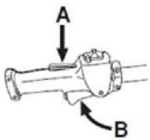

Fig. 4
6.2 THROTTLE LOCK (Fig. 4)
The throttle lock (Fig. 4-A) prevents involuntary accelerations, so to operate the accelerator you have to press the block (Fig. 4-A) and the accelerator simultaneously (Fig. 4-B).
- Before each use, press the throttle lock (Fig. 4-A) and check that it returns to the rest position when released.
- Before starting the hedge trimmer, check that the accelerator (Fig. 4-B) and the throttle lock (Fig. 4-A) are working correctly.